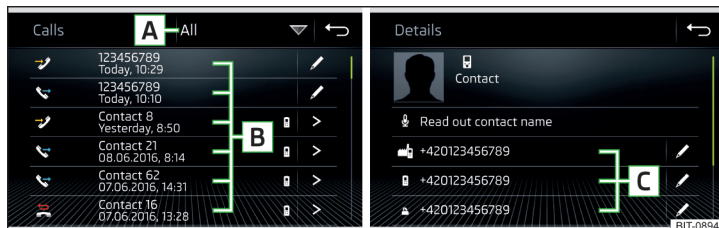
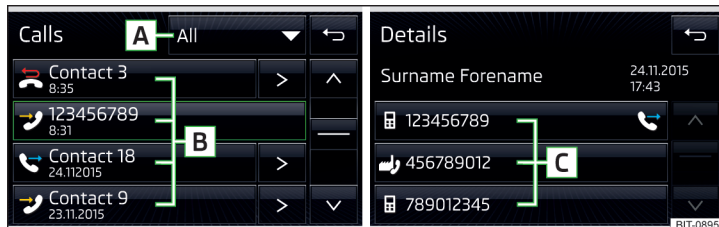

Fig. 169 Amundsen, Bolero: Call list/Contact details
Fig. 170 Swing: Call list/Contact details
- In the main *Telephone* menu, tap the function surface to display a call list » Fig. 169 or » Fig. 170.
- > Display the contact details » Fig. 169